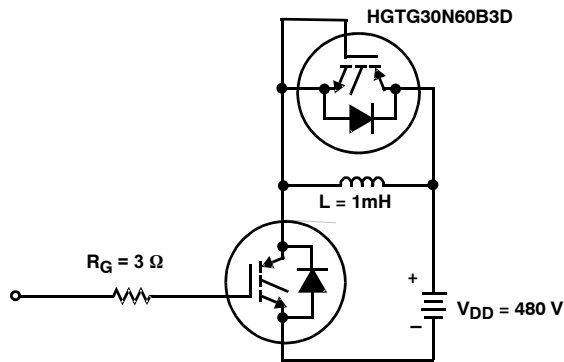

Figure 17. Inductive Switching Test Circuits
4. Values for two Turn-On loss conditions are shown for the convenience of the circuit designer.  $E_{ON1}$  is the turn-on loss of the IGBT only.  $E_{ON2}$  is the turn-on loss when a typical diode is used in the test circuit and the diode is at the same  $T_J$  as the IGBT. The diode type is specified in Figure 17.